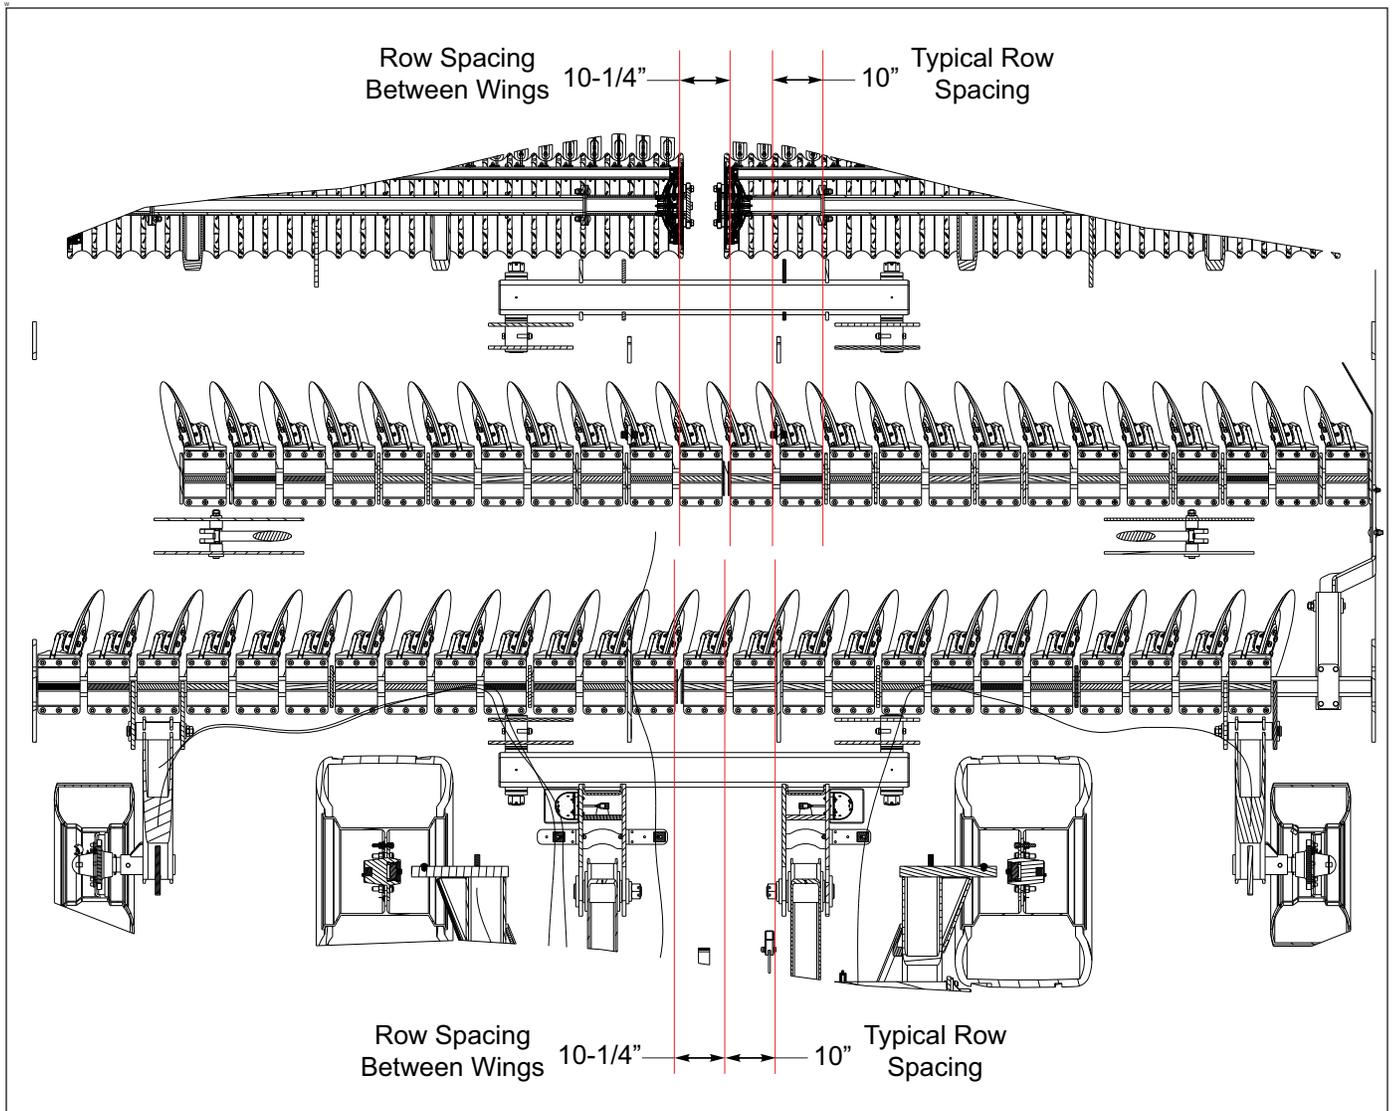

Figure 4-5: Lateral Adjustment of Gang Assemblies (2 of 2)
- The wing rear gang assemblies should be adjusted so the first row unit adjacent to the nearest center section rear row unit is 10-3/8” on center from it. *See Figure 4-5*